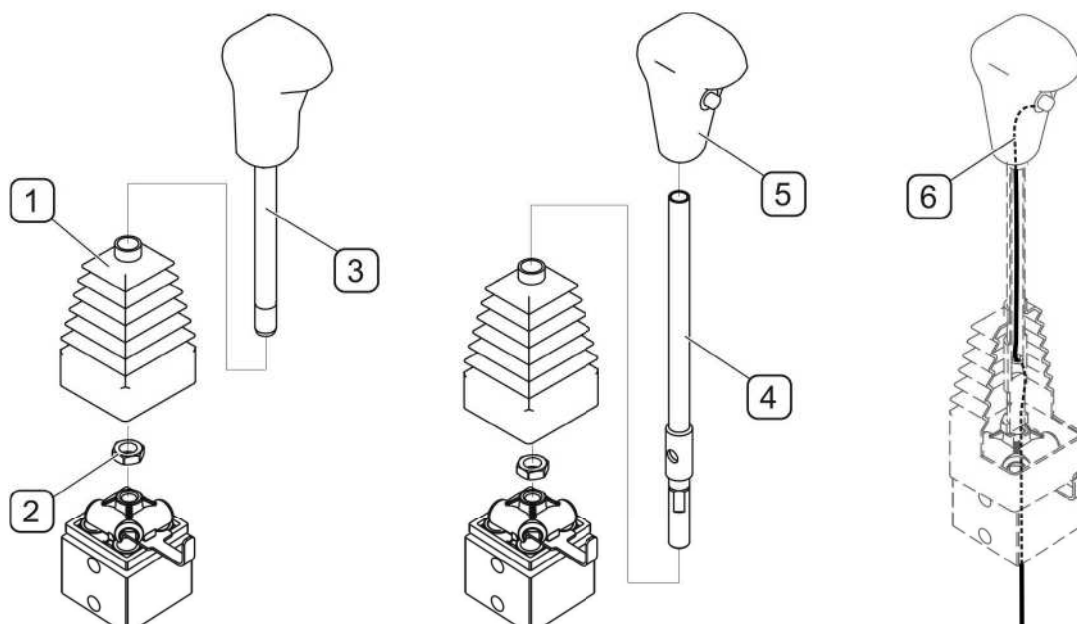
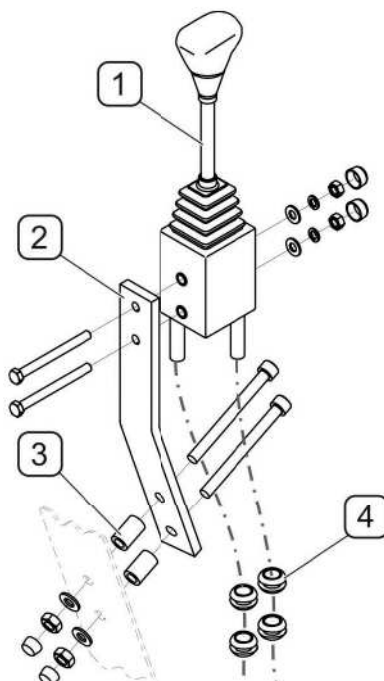

FIG. 4.21A Modification of control lever of KIOTI DK751C(DK753C), DK901C(DK903C)
FIG. 4.22A **Installing control lever in tractor cab**
(1)- rubber shield; (2)- counter nut; (3)- lever with handle present in KIOTI tractor; (4)- modified lever catalogue number 155N-01030000; (5)- handle with cut-off catalogue number 3665; (6)- electric wire controlling solenoid valve
In KIOTI DK751C(DK753C), DK901C(DK903C) TRACTORS IN PLACE OF FACTORY CONTROL LEVER (3) with handle mount lever (4) and handle (5) with cut-out (FIG. 4.21A), to do this:
- remove rubber shield (1) and loosen counter nut (2);
- screw out lever (3) from handle and substitute lever (4);
- line (6) connected to switch in handle (5) shall be guided from the top along the lever (4) and side opening and then by vertical opening in housing and to the exterior;
- mount handle, set lever appropriately with regard for electric wire position, tighten counter nut (2), replace rubber shield (1);
Inside cab using bolts nuts and distance sleeves (3) secure bracket (2) with control lever (1) to right wheel cover (FIG. 4.22A). Place rubber bushes (4) in openings in cab floor and pass Bowden control cables through them. Using cables connect control lever with appropriate loader selective control valve sections. KIOTI DK751C(DK753C), DK901C(DK903C) TRACTORS ARE EQUIPPED BY THE MANUFACTURER WITH CONTROL LEVER.